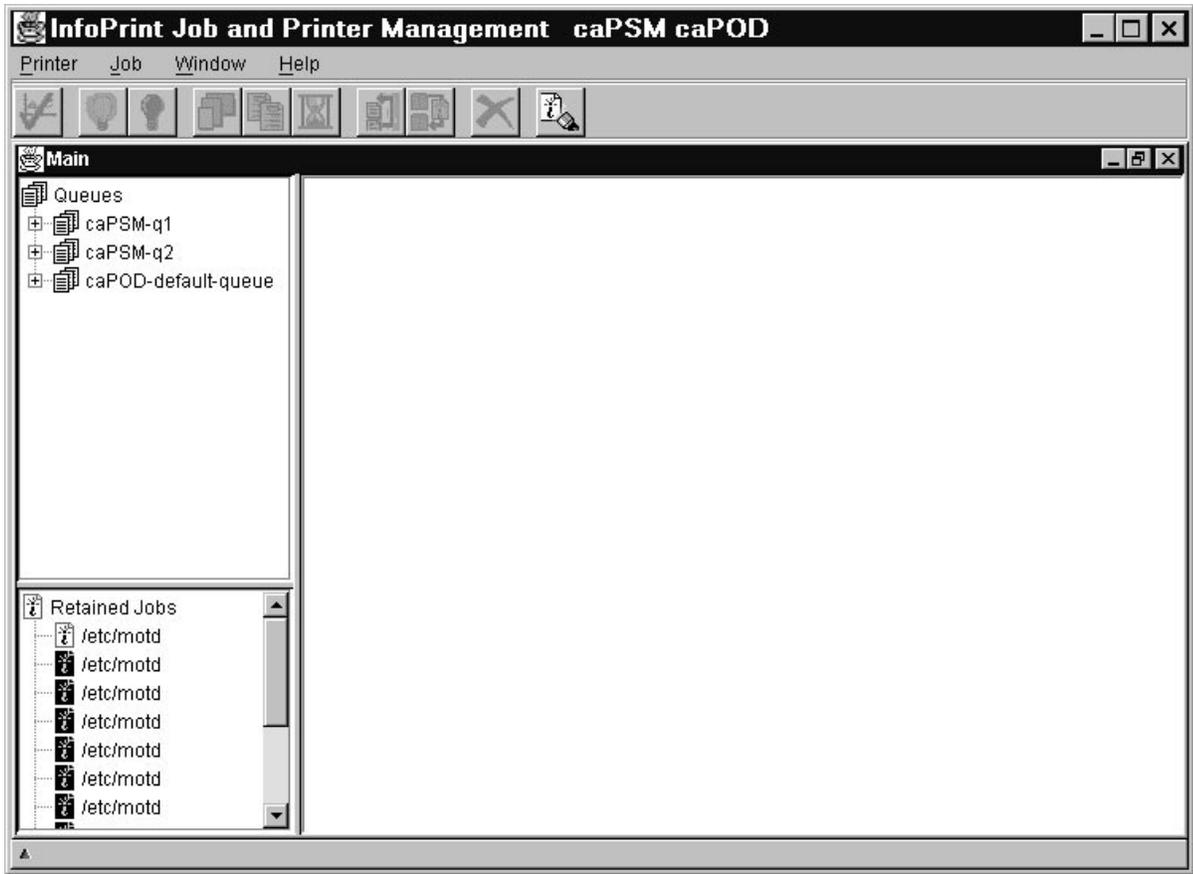
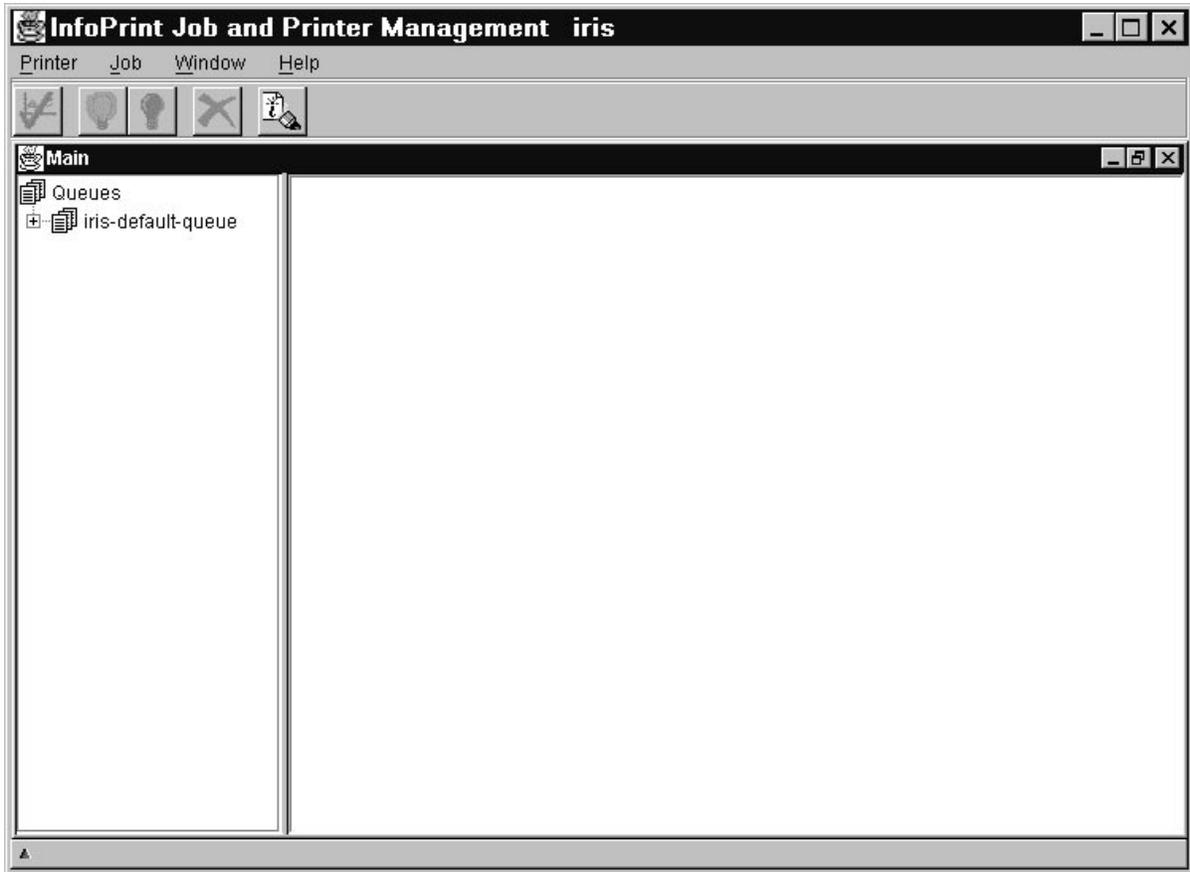

Figure 23. Advanced View of the Main Window of the InfoPrint Job and Printer Management GUI
Figure 24. Distributed View of the Main Window of the InfoPrint Job and Printer Management GUI
- Select **InfoPrint Advanced** to open a view similar to Figure 23 on page 56.
- Select **InfoPrint Distributed** to open a view similar to Figure 24 on page 57.
- Select **Advanced** to open a view similar to Figure 23 on page 56.
- Select **Distributed** to open a view similar to Figure 24.
3. Double-click on **Advanced Operator GUI** to open a view similar to Figure 23 on page 56, or on **Distributed Operator GUI** to open a view similar to Figure 24 on page 57.
- Double-click on **Advanced Operator GUI** to open a view similar to Figure 23 on page 56.
- Double-click on **Distributed Operator GUI** to open a view similar to Figure 24 on page 57.
- To open a view similar to Figure 23 on page 56, enter:
- To open a view similar to Figure 24 on page 57, enter: